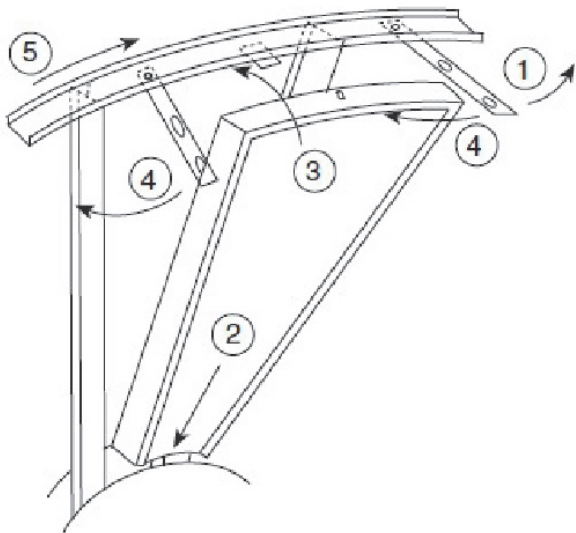

Fig. 40 — Segment Installation
2. Next remove one of the ERV wheel segments. Wheel segments are held in place by a segment retainer, which pivots on the wheel rim and is held in place by a segment retaining catch. In addition, there is a single screw at the wheel hub. See Fig. 40.